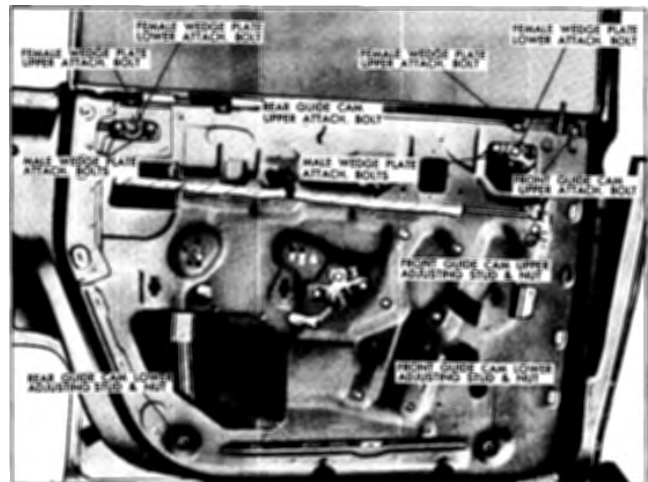

Fig. 3-50 Guide Cam and Wedge Plate Attachment
4. On 39 styles, equipped with electric window regulators, loosen rear guide cam upper attaching bolt and remove lower adjusting stud and nut. This is necessary to move lower section of rear guide cam rearward far enough to permit removal of electric window regulator and motor assembly. Fig. 3-50 shows the rear guide cam attachments and is typical of rear guide cams equipped with power windows.